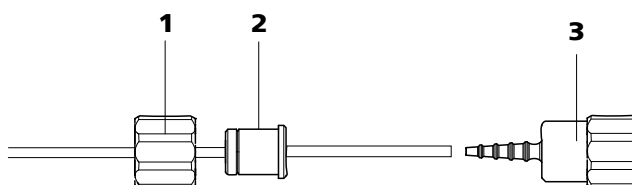

Figure 7 Install pump tubing connection without filter
- **Case B:** a 6.2744.160 pump tubing connection **without filter** (see Figure 7, page 17).